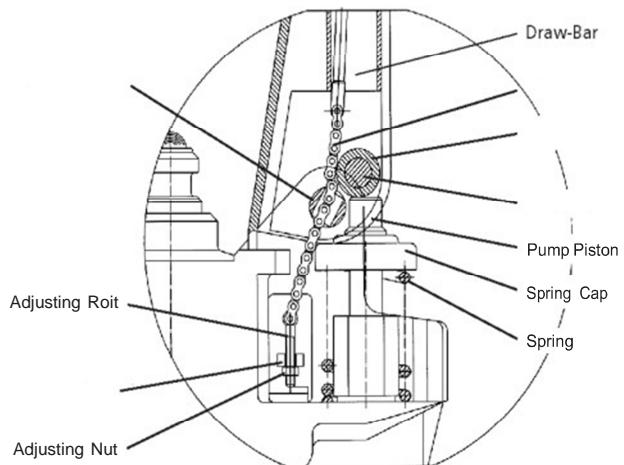

Fig. 7: Side view (symbolic)
- b) Set the control lever of the handle to the 'LOWER' position, then pass the adjusting nut, adjusting bolt through the hole of the axle with your hand (Fig. 7).